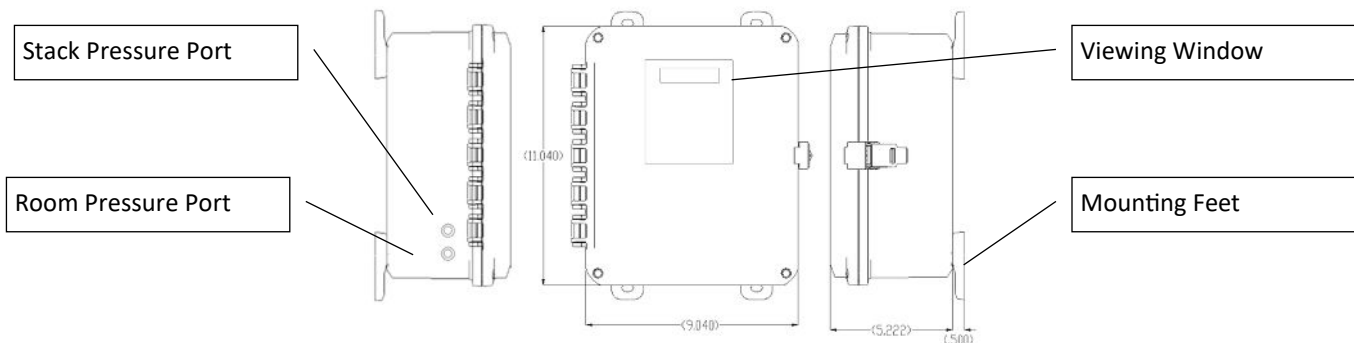

FIGURE 22
- When possible, a single “accessible” location is preferred for access to the Meridian control panel as well as the gas valve control box (E-VK (N/P) for the Isoflames linear burner. With mounting feet installed the Meridian Control Panel measures approximately 9-1/2” (W) x 12” (T) as shown in **(Figure 22)**. The gas valve control valve box measures approximately 12” (W) x 12” (T) x 4” (D). The gas valve control box installation will be covered in section “Gas Line & Valve Box Installation”.